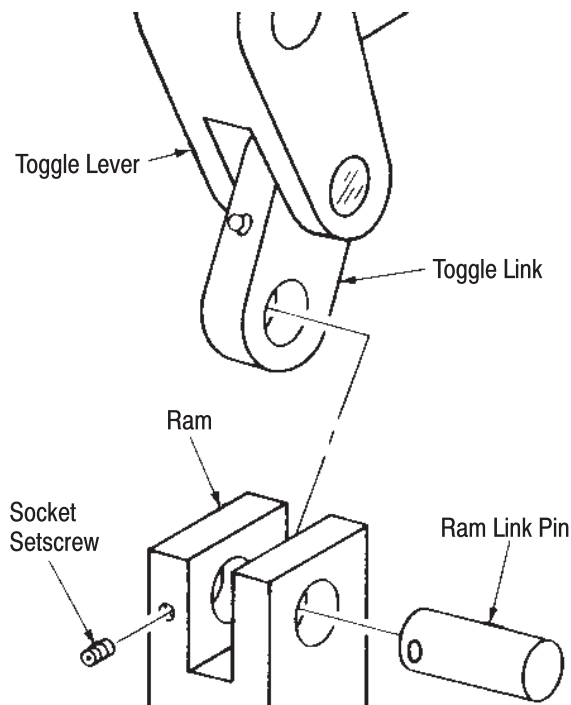

Figure 4
7. Loosen the socket setscrew shown in Figure 4, and pull the ram toward you.
1. Align the holes in the ram and toggle link, and insert the ram link pin. See Figure 4.